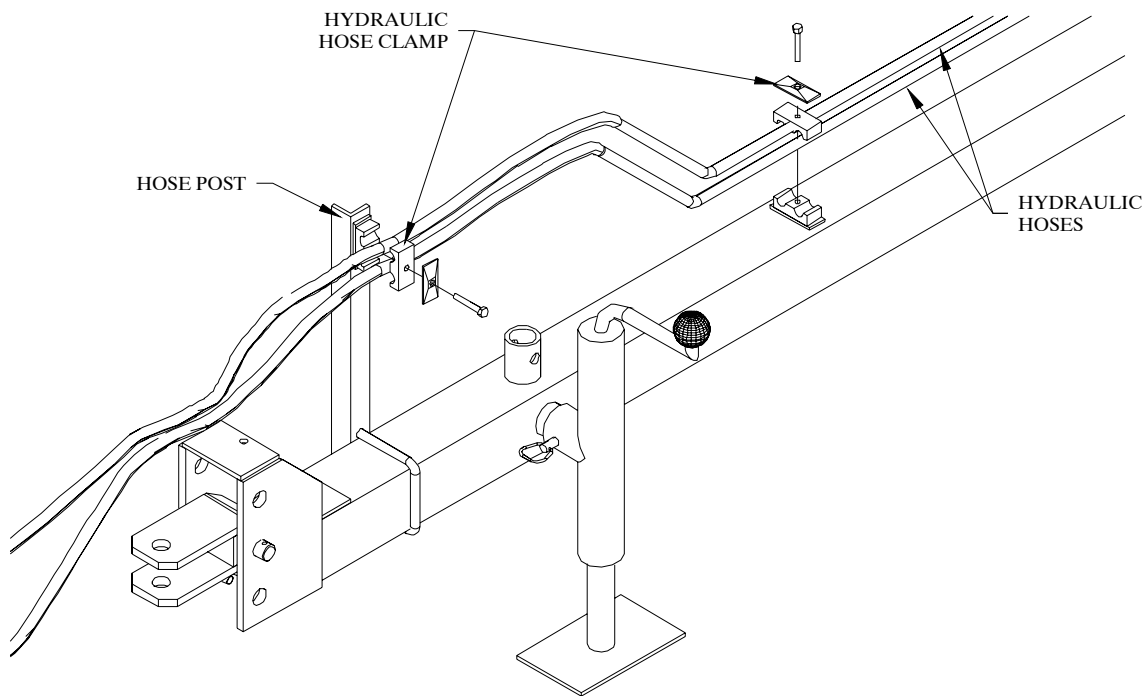

Figure 5
5. Attach the hoses to the hose post at the front of the unit with the hose clamps. Refer to Figure 5 on the next page.